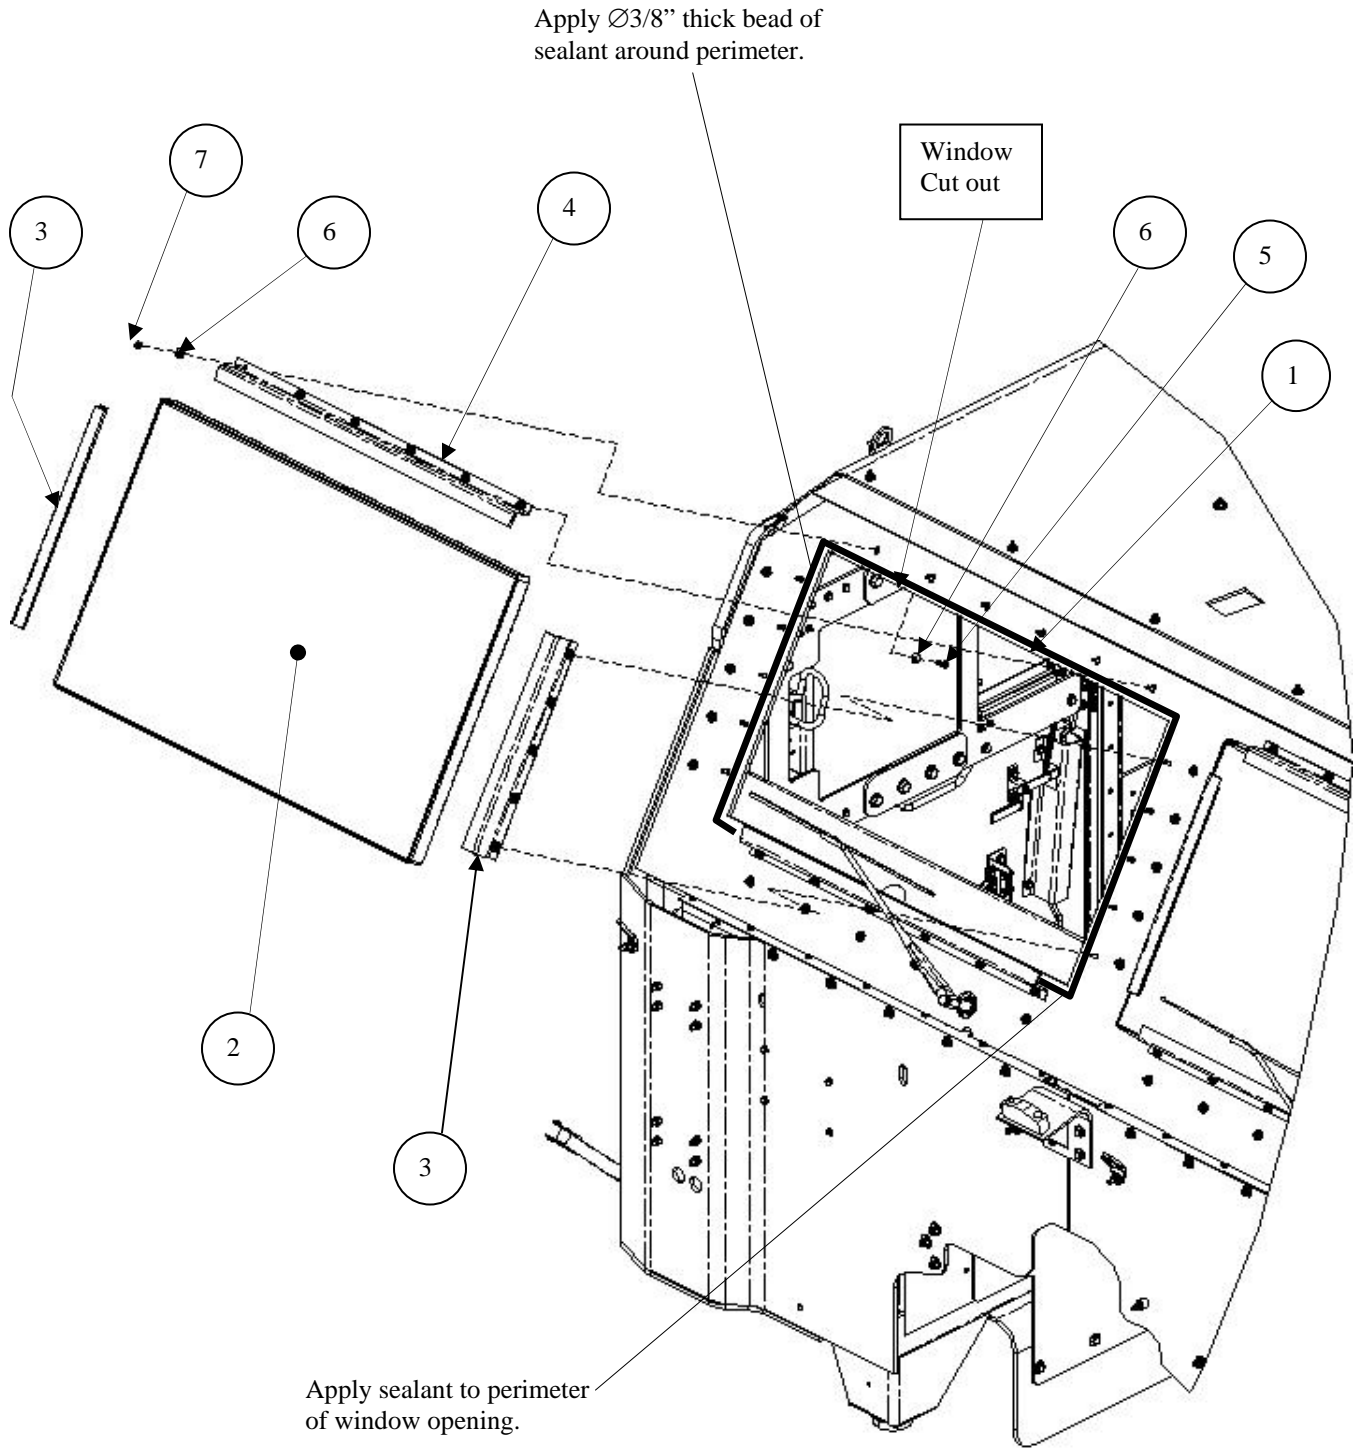

Figure 3-83. Windshield Assembly Armor Installation.
2. Install windshield assembly armor as follows (see Figure 3-83):
- a. Apply a $\text{Ø}3/8$ -inch thick bead of black urethane sealant (1) around the perimeter of the window cut out.
- b. Install one windshield assembly armor (2) onto previously installed windshield mount Z-channel and install two side windshield mount Z-channels (3) and one upper windshield mount Z-channel (4) and secure each with the remaining 16 bolts (5), 32 flat washers (6), and 16 lock nuts (7). Torque lock nuts to 9 lb-ft.